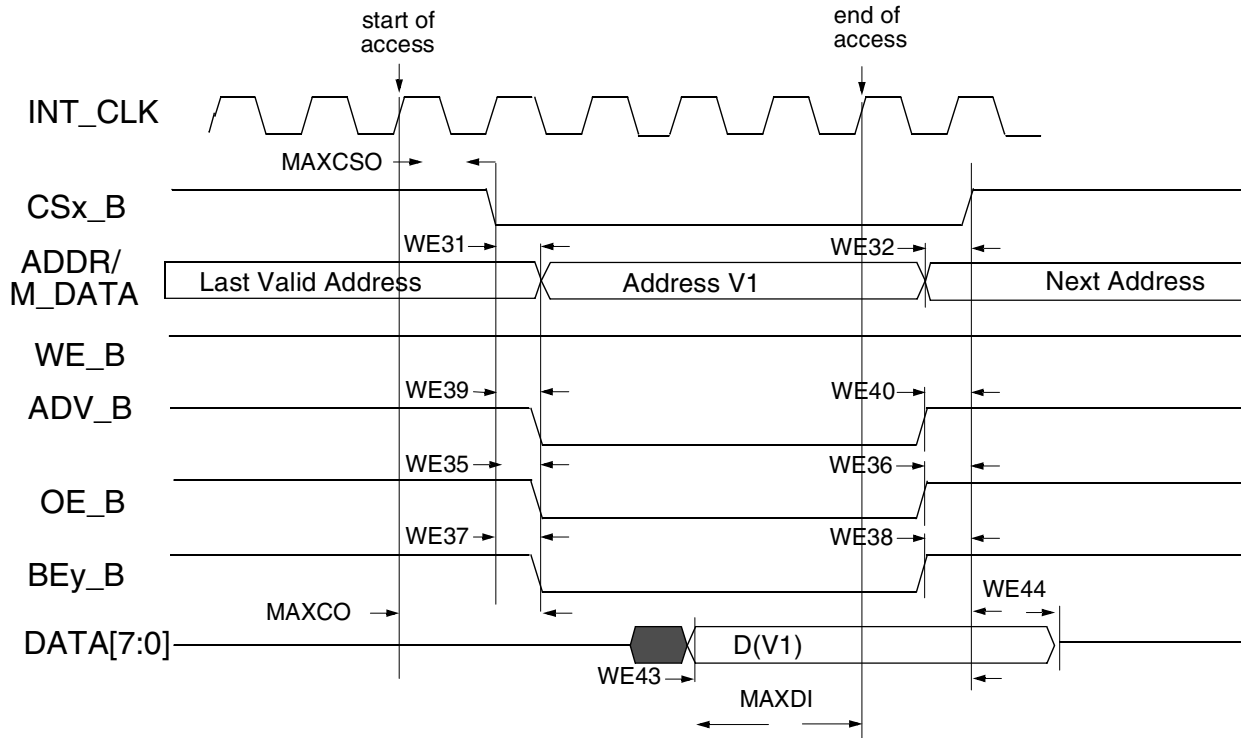
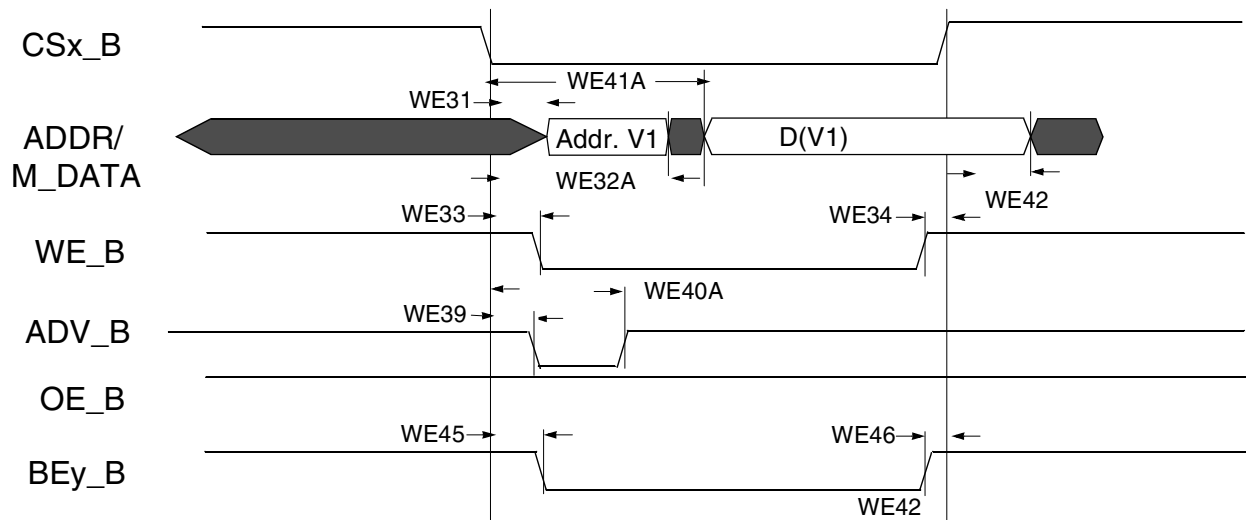
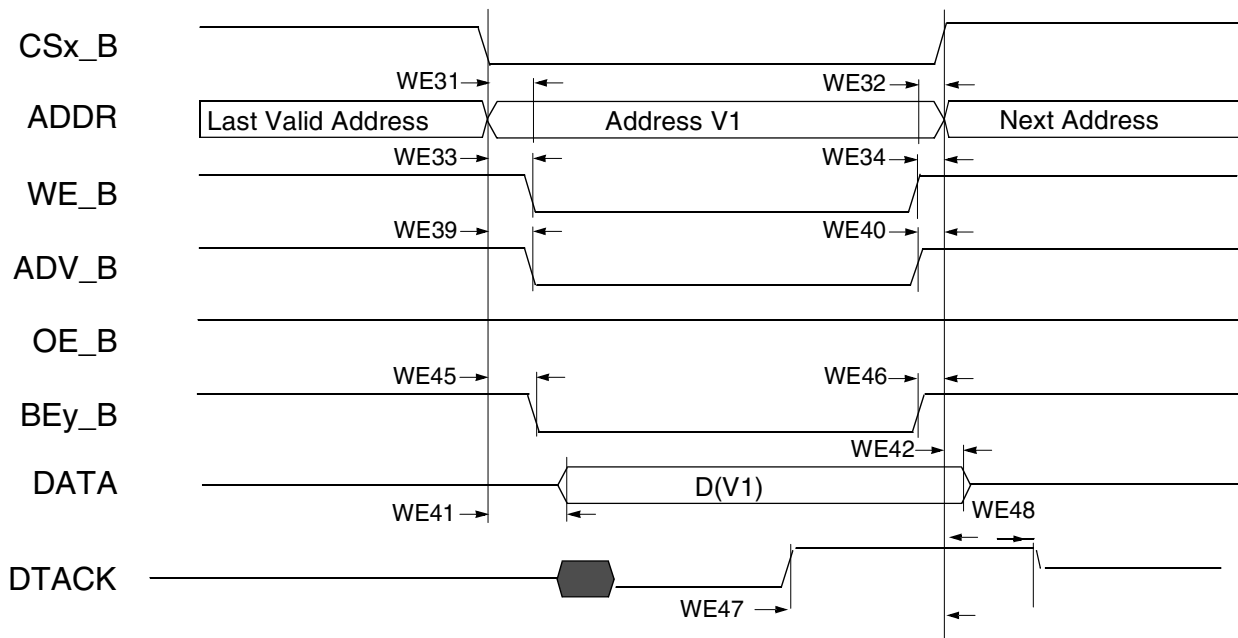

Figure 26. Asynchronous Memory Read Access (RWSC = 5)
Figure 29. Asynchronous A/D Muxed Write Access
Figure 31. DTACK Write Access (DAP=0)
Figure 26 through Figure 31, and Table 54 help to determine timing parameters relative to the chip select (CS) state for asynchronous and DTACK WEIM accesses with corresponding WEIM bit fields and the timing parameters mentioned above.
Asynchronous read and write access length in cycles may vary from what is shown in Figure 26 through Figure 29 as RWSC, OEN, and CSN is configured differently. See i.MX51 reference manual for the WEIM programming model.